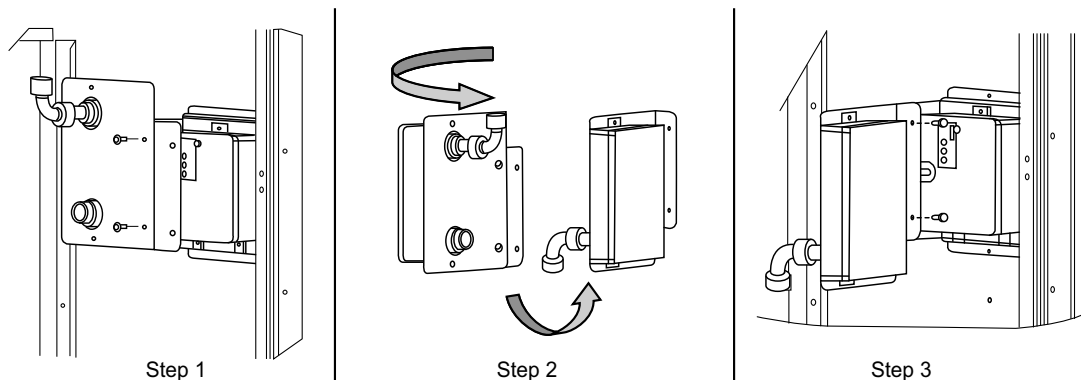

Fig. 66 - Completing Installation of Return Air Smoke Sensor
- Unscrew the two screws holding the Return Air Smoke Detector assembly. See Fig. 66, Step 1. Save the screws.
- Turn the assembly 90 degrees and then rotate end to end. Make sure that the elbow fitting is pointing down. See Fig. 66, Step 2.
- Screw the sensor and detector plate into its operating position using screws from Step 1. See Fig. 66, Step 3.